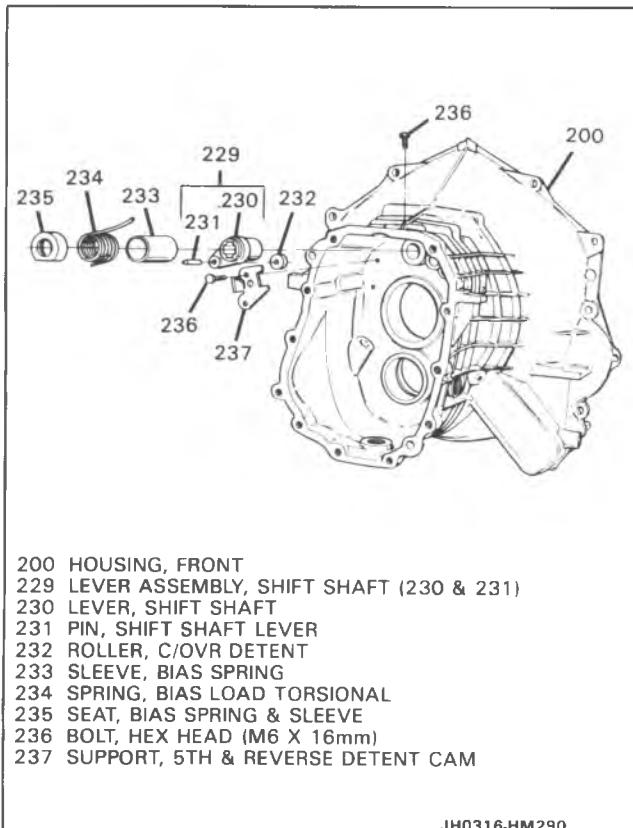

Figure 51 Removing Bias Spring Components
- Bolt (236), bias spring and sleeve seat (235), bias load torsional spring (234), bias spring sleeve (233), shift shaft lever assembly (229) and detent roller (232) (Figure 51).
- Bolt (236), detent cam support (237).